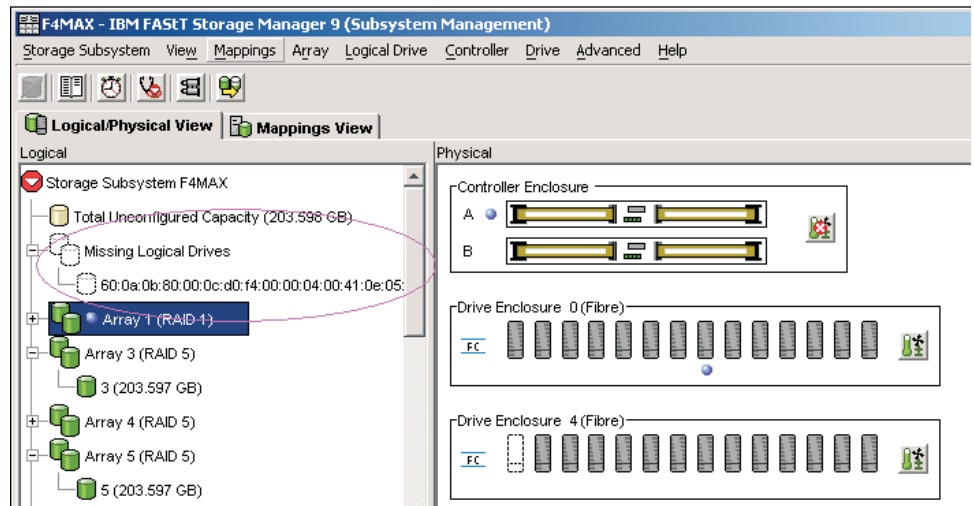

Figure 24. Subsystem Management Logical/Physical View of Missing Logical Drives
7. Wait for the storage manager to mark the arrays/logical drives as missing in the Subsystem Management window. See Figure 24.